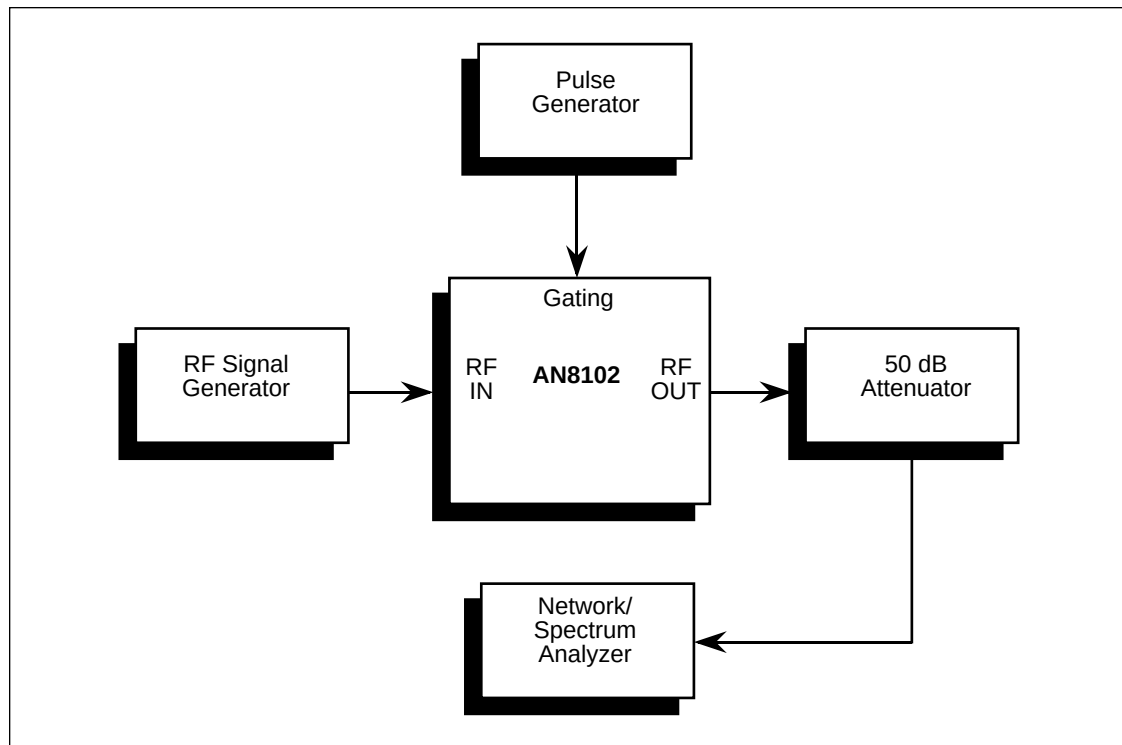

Figure 5-1. General Test Setup.
Figure 5-1 displays the general test setup required for system evaluation. Specific changes necessary for any test are provided within each procedure.
1. In the setup of Figure 5-1, remove the pulse generator cable from the GATING input jack.
2. In the setup of Figure 5-1, remove the signal generator cable from the RF IN connector.
3. In the setup of Figure 5-1, replace the 50 dB attenuator with a low noise 30 dB amplifier.
1. Set up the test equipment as in Figure 5-1.